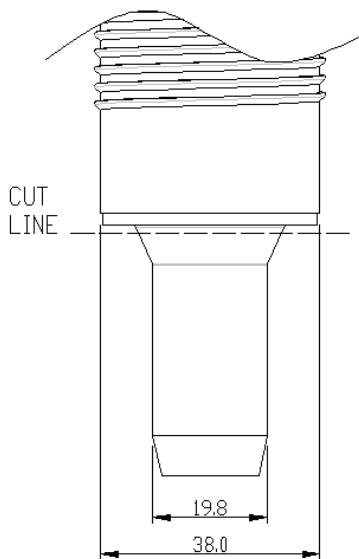
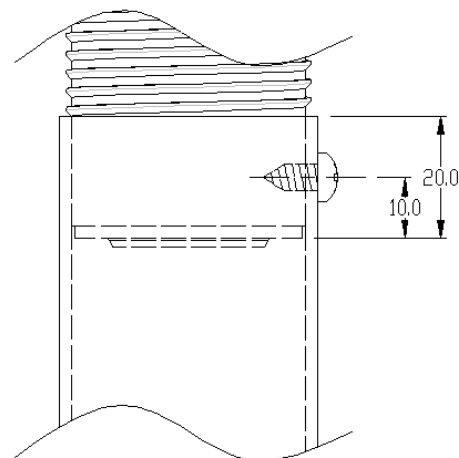

FIGURE 1
FIGURE 2
- Option one is for a small diameter pipe, which **MUST** slide over the Ø19.8mm fitting detailed in Figure 1.
- Option two is for a larger diameter pipe and prior to connection, the snorkel outlet **MUST BE** modified by cutting and de-burring at the "CUT LINE" shown in Figure 1. Once complete, slide on the large diameter pipe, drill a pilot hole Ø3mm and secure with a 8gx3/8 stainless steel screw as shown in Figure 2.